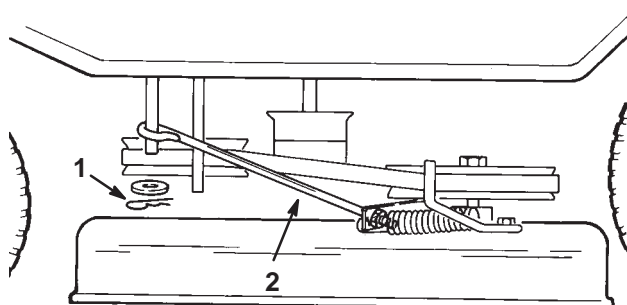

Figure 33
11. Remove the hairpin cotter and washer from the blade control arm on the left side of the mower (Fig. 33).